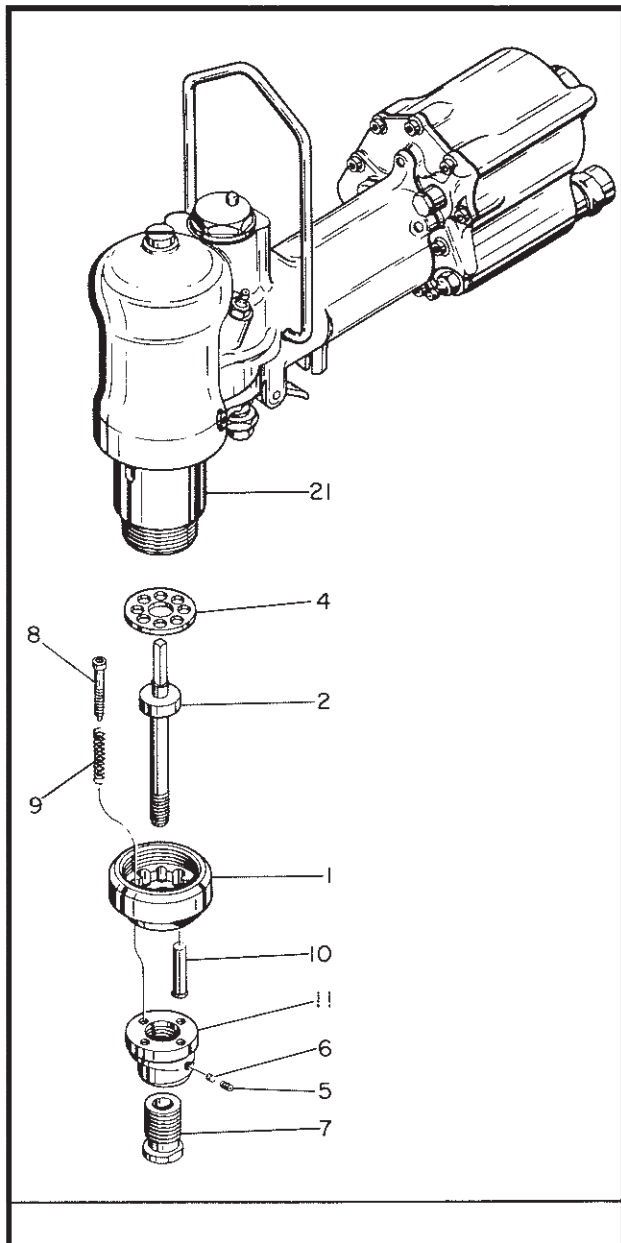

Figure 5. Nose Piece Assembly
1. Refer to Table II, Section V, and select the correct nose piece assembly (see figure 5) and pull-up stud for the desired Rivnut size. Check pull-up stud holder if two-piece pull-up stud is used.
2. Assemble the stud thrust washer (4) and retaining washer (3) over the square end of pull-up stud or stud holder as in figure 5. Install pull-up stud assembly in nose piece assembly and screw nose piece firmly on handle sleeve (21).
1. One-piece. Unscrew the nose piece assembly (see figure 5). Work the pull-up stud assembly free of the push pins and springs. Remove the thrust washer retaining washer (3) and thrust washer (4). Discard damaged pull-up stud. Install thrust washer (4) and retaining washer (3) over square end of pull-up stud. Install in nose piece assembly and screw nose piece firmly on handle sleeve (21).
2. Two-piece. Unscrew the nose piece assembly (see figure 5). Work the pull-up stud assembly free of the push pins and springs. Loosen the pull-up holder set screws and remove damaged pull-up stud. It is not necessary to disturb the thrust washer in the two-piece assembly. Insert new pull-up stud
The pull-up stud thrust washer (4, figure 5) and its retaining washer (3) must always be installed over the square end of the pull-up stud (2) and pushed down against the shoulder. Failure to observe this order of assembly (see figure 5) may cause damage to the air motor!
5. Nose Piece Assembly. (See figure 5.)
Observe the order of assembly shown in figure 5; first the thrust washer (4), then the retaining washer (3) over the square end of the pull-up stud. Failure to assemble in order could cause an air motor failure.